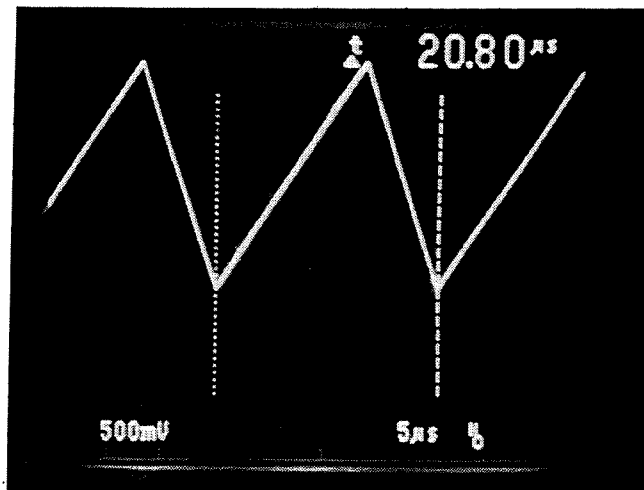

Figure 3.3. 20.8  $\mu$ s Sync Signal Free Running Across C9 on Power Supply.
3. Turn R11 CCW and set for approximately 5 $\mu$ s fall time on scope. Sawtooth waveform should approach 70% duty cycle. (see Figure 3.3.)